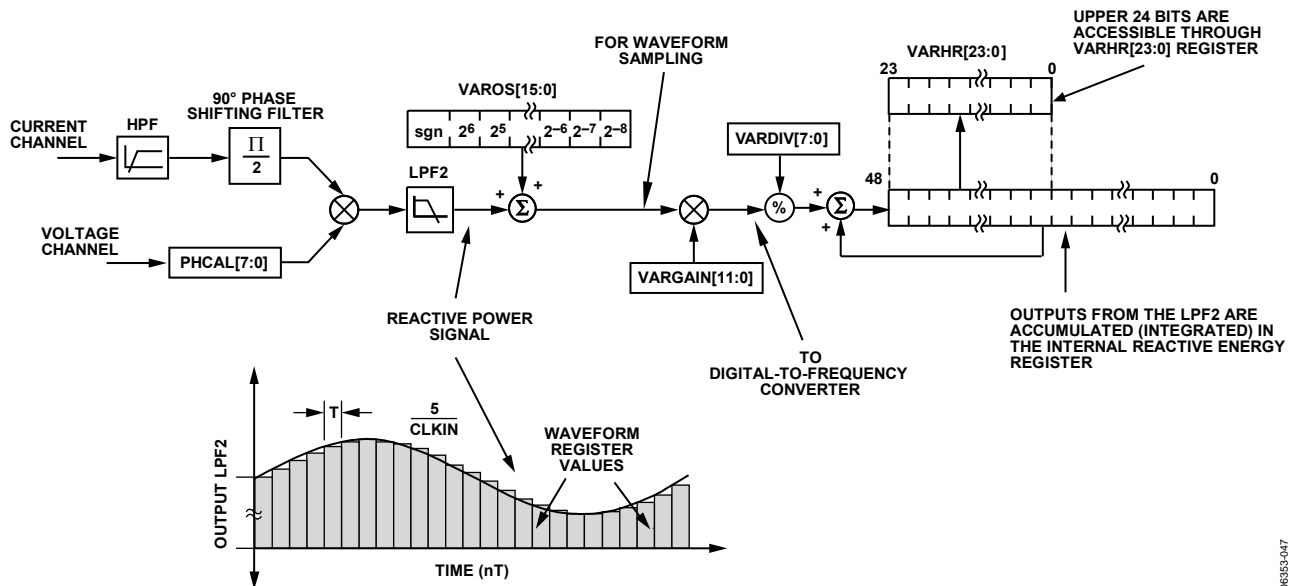

Figure 72. Reactive Energy Calculation
The instantaneous reactive power signal  $q(t)$  is generated by multiplying the voltage and current channels. In this case, the phase of the current channel is shifted by 90°. The dc component of the instantaneous reactive power signal is then extracted by a low-pass filter to obtain the reactive power information (see Figure 72).
Figure 72 shows the signal processing chain for the ADE7169/ADE7569 reactive power calculation. As explained in the Reactive Power Calculation (ADE7169/ADE7569) section, the reactive power is calculated by applying a low-pass filter to the instantaneous reactive power signal. Note that, when reading the waveform samples from the output of LPF2, the gain of the reactive energy can be adjusted by using the multiplier and by writing a twos complement, 12-bit word to the var gain register (VARGAIN[11:0], Address 0x1E). Equation 25 shows how the gain adjustment is related to the contents of the var gain register.
The ADE7169/ADE7569 also incorporate a reactive power offset register (VAROS[15:0], Address 0x21). This signed, twos complement, 16-bit register can be used to remove offsets in the reactive power calculation (see Figure 72). An offset can exist in the reactive power calculation due to crosstalk between channels on the PCB or in the IC itself. The offset calibration allows the contents of the reactive power register to be maintained at 0 when no power is being consumed.
The discrete time sample period (T) for the accumulation register in the ADE7169/ADE7569 is 1.22 μs (5/MCLK). As well as calculating the energy, this integration removes any sinusoidal components that may be in the active power signal. Figure 72 shows this discrete time integration or accumulation. The reactive power signal in the waveform register is continuously added to the internal reactive energy register.
As shown in Figure 72, the reactive power signal is accumulated in an internal 49-bit, signed register. The reactive power signal can be read from the waveform register by setting the WAVMODE register (Address 0x0D) and setting the WFSM bit (Bit 5) in the Interrupt Enable 3 SFR (MIRQENH, Address 0xDB). Like the current and voltage channel waveform sampling modes, the waveform data is available at sample rates of 25.6 kSPS, 12.8 kSPS, 6.4 kSPS, and 3.2 kSPS.